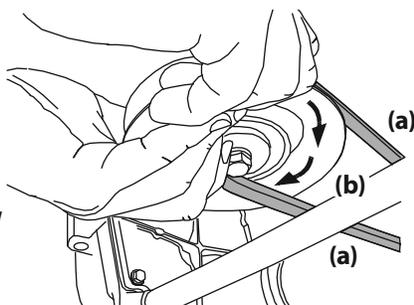

Figure 39
- d. While still holding the PTO belt (a) downward, continue turning the PTO pulley (b) until the PTO belt (a) is rolled off the PTO pulley (b). Refer to Figure 39.